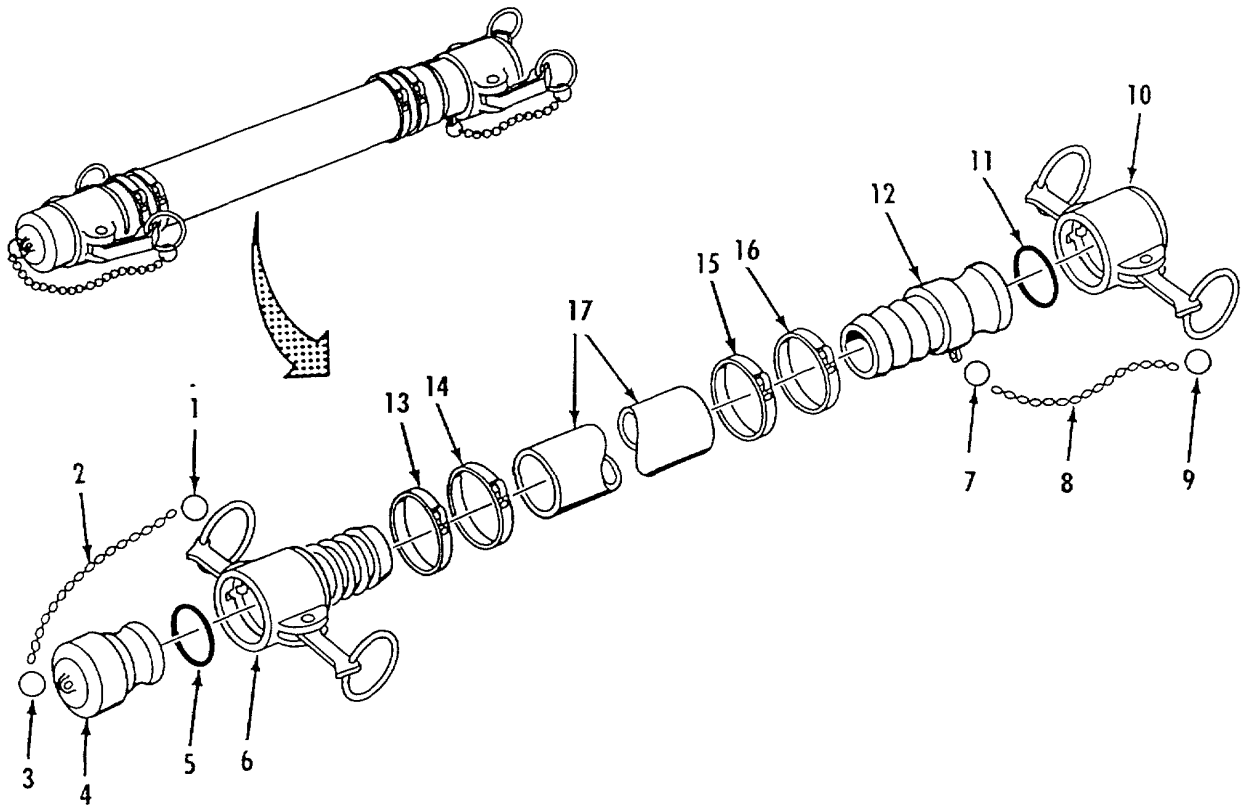

Figure 4-3. Discharge and Suction Hose Assembly.
- (14) Install gasket (5, figure 4-3) in female coupling (6).
- (15) Install gasket (11) in dust cap (10).
- (16) Connect split ring (9), chain (8) and split ring (7) to dust cap (10) and male coupling (12).
- (17) Connect split ring (1), chain (2) and split ring (3) to dust plug (4) on female coupling (6).
- (18) Install dust plug (4) in female coupling (6).